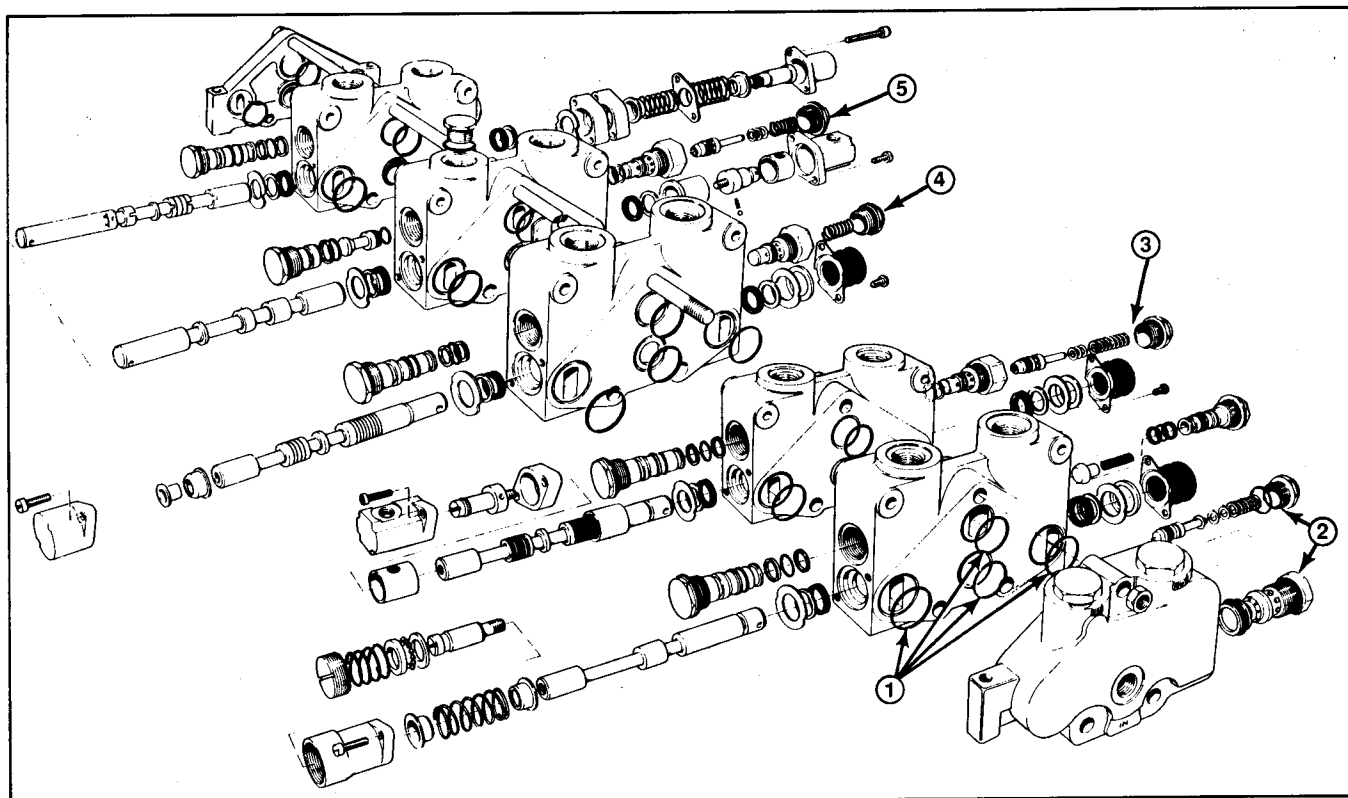

Figure 27
2. Clean and inspect relief valve parts (Fig. 27) and the valve section housing. Replace parts as necessary. Install new seals and back-up rings. Apply hydraulic oil to parts before installing.
2. Put the valve bank in a vertical position in a bench vise, and remove the locknuts from the three (3) bolts securing the sections together (Fig. 27).